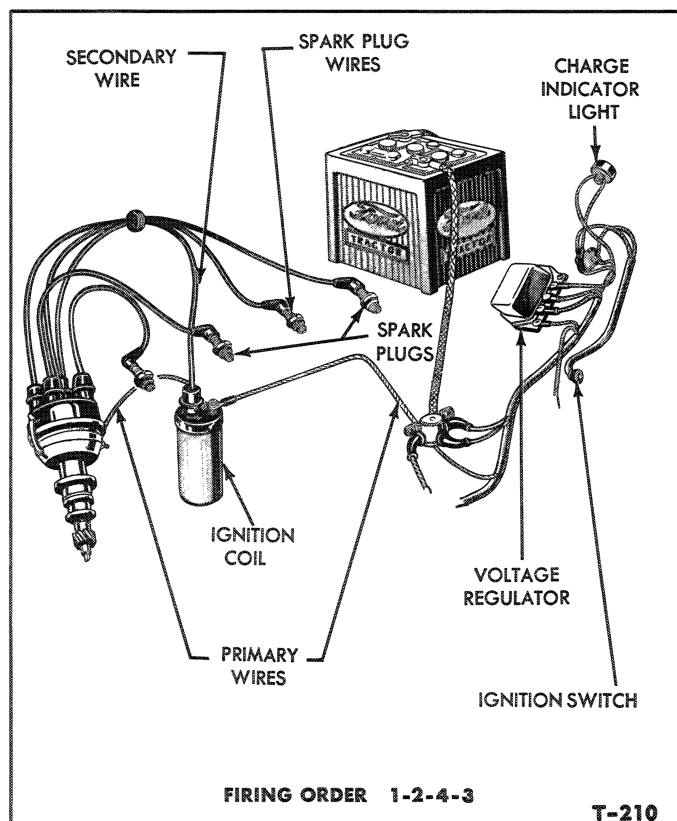

Figure 1—Ignition System
The ignition system (gasoline and LP-Gas tractors only) consists of a primary (low voltage) and a secondary (high voltage) circuit, Figure 1. The battery, ignition switch, primary wiring of the ignition coil, breaker
The secondary (high tension) wires, Figure 1, should be inspected periodically to see that they are not oil soaked, do not have cracked insulation or loose terminals.
1. Disconnect the primary and secondary leads from the coil, Figure 1.